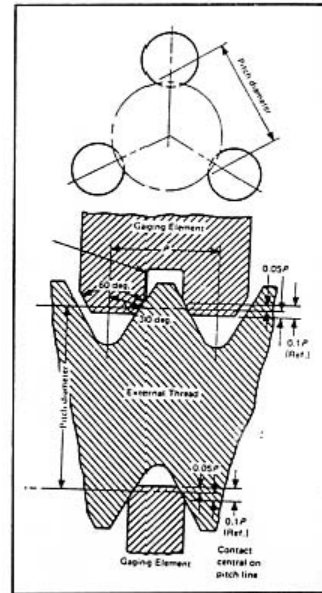

Figure 2.
- Functional Diameter: The functional diameter is the pitch diameter of an enveloping thread with perfect pitch, lead, and flank angles and having a specified length of engagement. This diameter includes the cumulative effect of variations in lead (pitch), flank angle, taper, straightness, and roundness. See Figure 2.